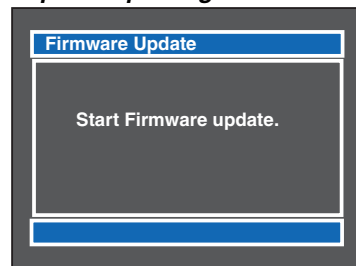
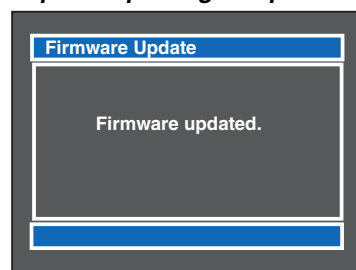

Fig. 1-2a
Fig. 1-2d
- 4) Turn the DVD video camera/recorder on: After approx. 20 seconds, the updating start screen (Fig. 1-2a) will appear, and the firmware programs will be automatically updated in sequential order. When updating of each firmware program is completed, the updating complete screen (Fig. 1-2d) will appear momentarily. (\*1)